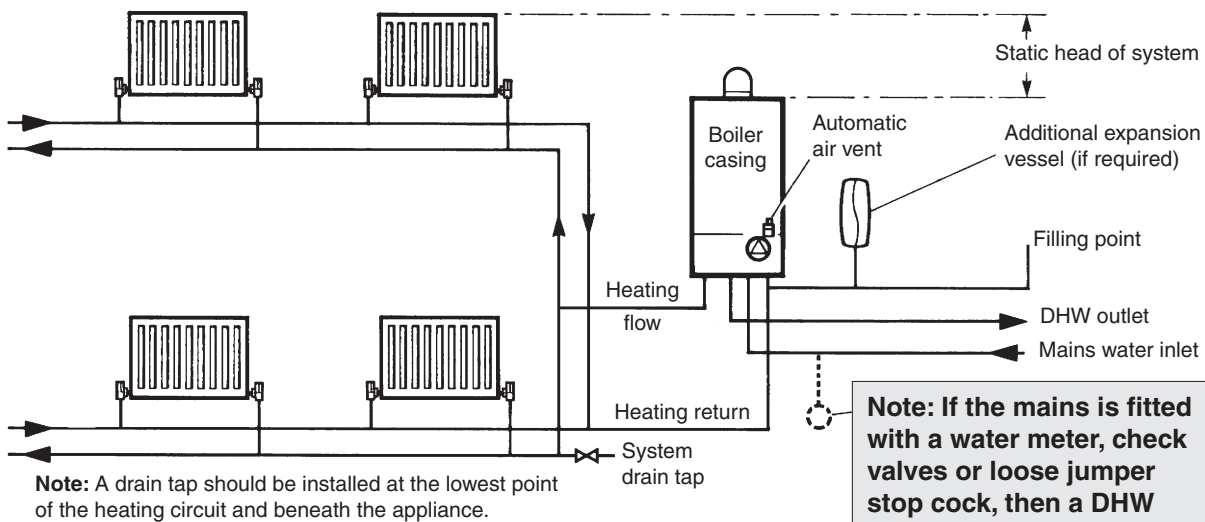

Fig. 4.5
4.7 CENTRAL HEATING SYSTEM - Fig. 4.5
System volume - The expansion vessel incorporated into the boiler is suitable for a sealed heating system with a maximum water content of 80 litres (18 gal). Above 80 litres, consideration should be given to fitting an additional expansion vessel fitted in the position shown in Fig. 4.5. To check correct operation of the expansion vessel(s) the system pressure should not be more than 2.5 bar when the system is at maximum operating temperature (for further guidance refer to BS 7074:1).
The system design pressure (cold) should be set to 1.0 bar. This pressure is equivalent to a static head (see Fig. 4.5) of 10.2 metres of water.